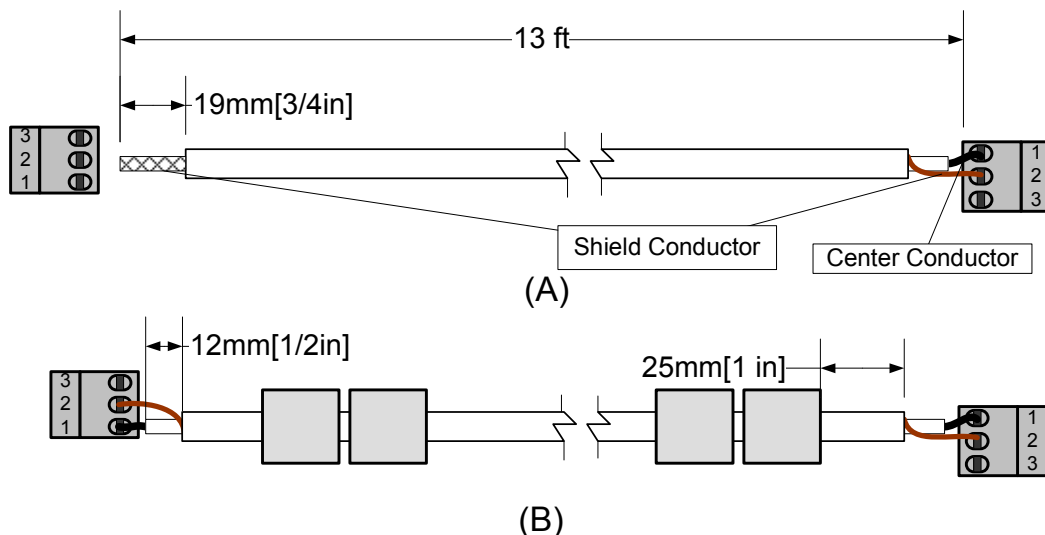

Figure 7 RG 59 Coax cable wiring diagram
1. Strip the coax cable jack off for about 19mm [3/4in] at the un-terminated end, as shown in Figure 7 RG 59 Coax cable wiring diagram (A).
6. *Figure 7 RG 59 Coax cable wiring diagram (B)* shows the RG59 cable assembly been completely terminated with ferrite cores clamped on both ends.
- Step 2:** Plug the pre-terminated RG59 coax cable onto coupler board J5, then mount two (2) ferrite clippers close to the connector (see *Figure 7 RG 59 Coax cable wiring diagram*).